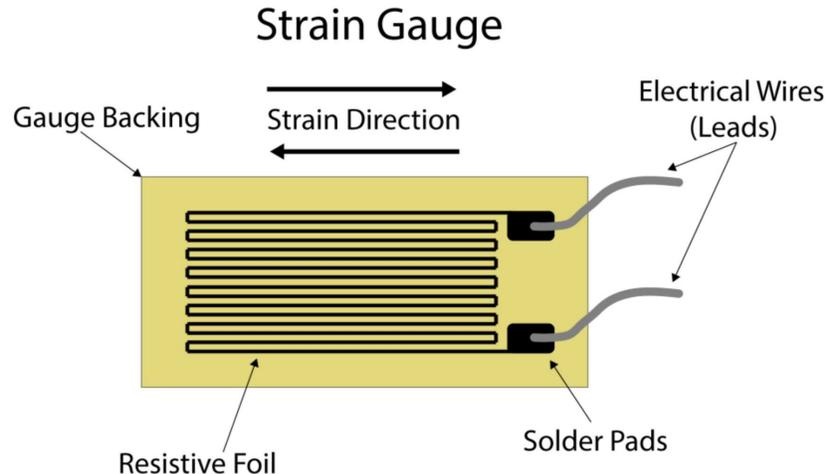

Fig. 3 Diagram of a strain gauge comprised of a long wire folded back upon itself (courtesy of Michigan Scientific Corporation).
- **Strain Gauges:** Strain gauges are comprised of a long wire doubled back on itself as shown in Fig. 3. These are used to measure the strain (and therefore the forces) on an object. We can see this by considering the resistance of a long, straight rectangular conductor, which is calculating using $R \approx l/\sigma A$ (l is the wire's length, A is the cross-sectional area, and σ is the conductivity). When the sensor is compressed, the length of the conductor decreases and the area of the conductor increases, which leads to less resistance. Conversely, when the sensor is experiencing tension, the resistance increases.